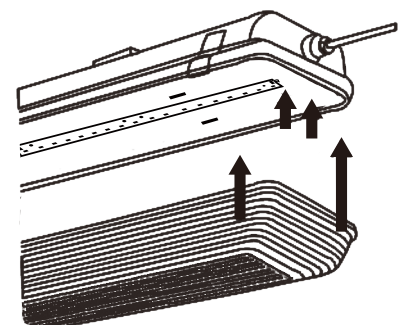

Figure 11
14. To install lens- position lens onto fixture housing. **See Fig.11.** Edge of lens should be positioned in gasket area on the perimeter of housing. Slide latches over edge of lens. When latch is fully engaged it will produce a "snap" sound. Repeat for all remaining latches.